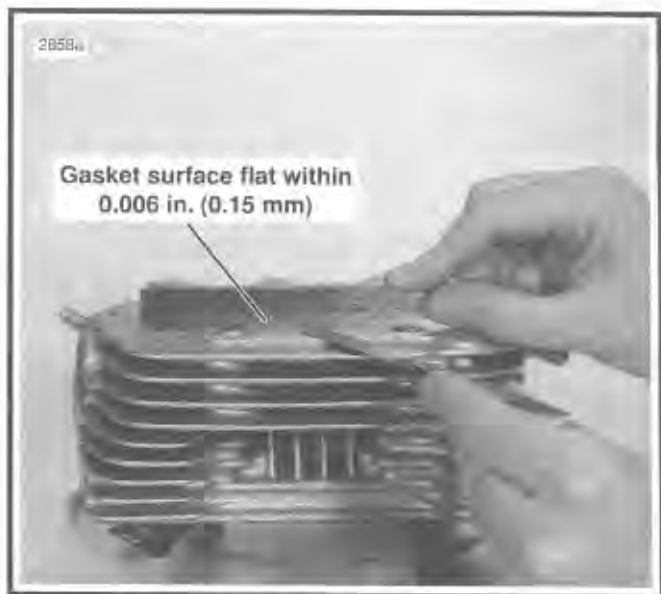

Figure 3-16. Checking Gasket Surface
20. See Figure 3-16. Check head gasket surface on head for flatness. Machine or replace any head which exceeds SERVICE WEAR LIMIT of 0.006 in. (0.15 mm).